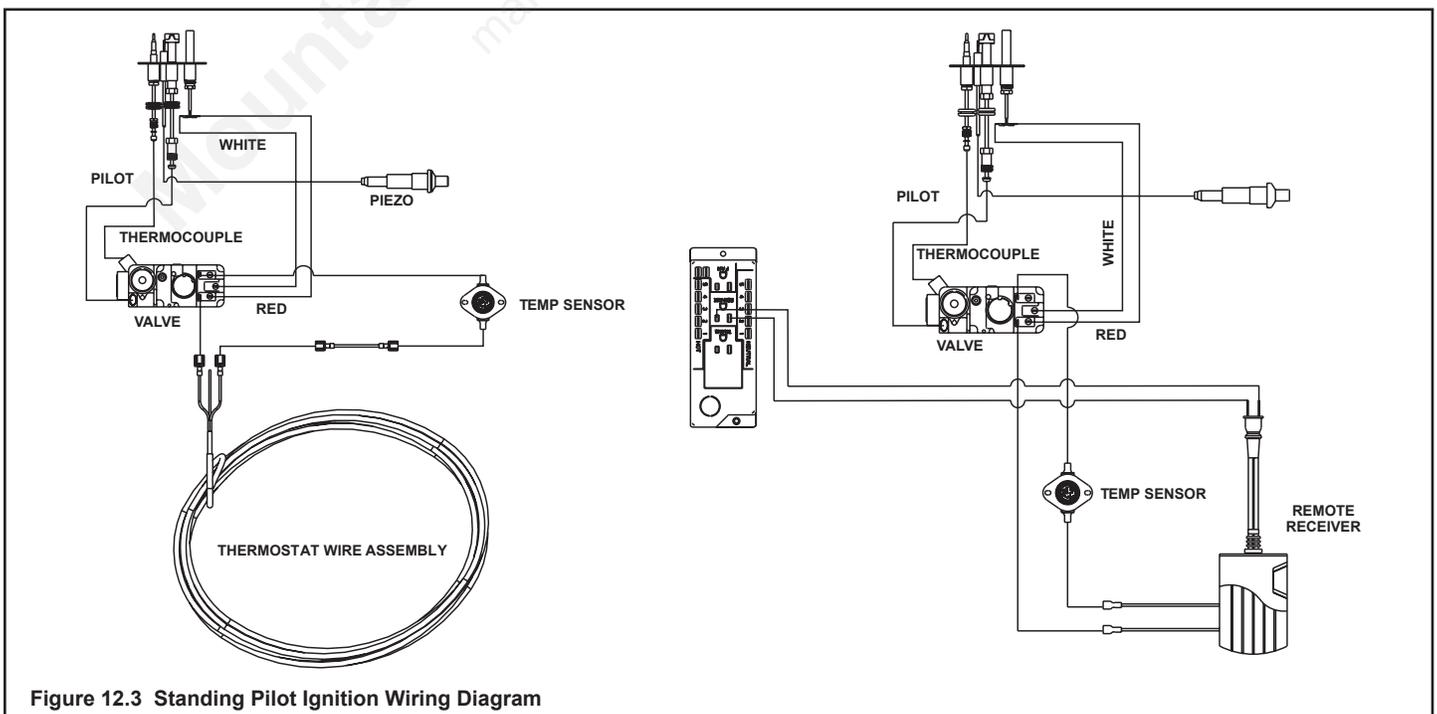

Figure 12.3 Standing Pilot Ignition Wiring Diagram
- The standing pilot ignition system wiring does not require a 110 VAC supply to operate. See Figure 12.3.